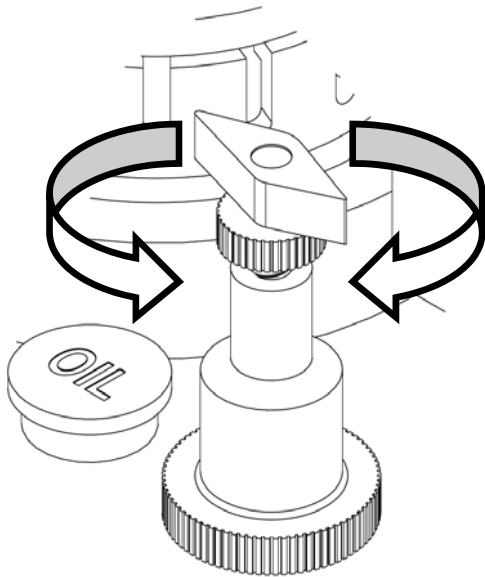

Figure 11 Manual Pressure Control Valve, Clockwise to Increase Pressure, Counter-clockwise to Decrease Pressure
1. Locate and loosen the locking ring below the “T” handle on the pumps external pressure regulator. Then turn the “T” handle counter clockwise until it turns freely. (See Figure 11)